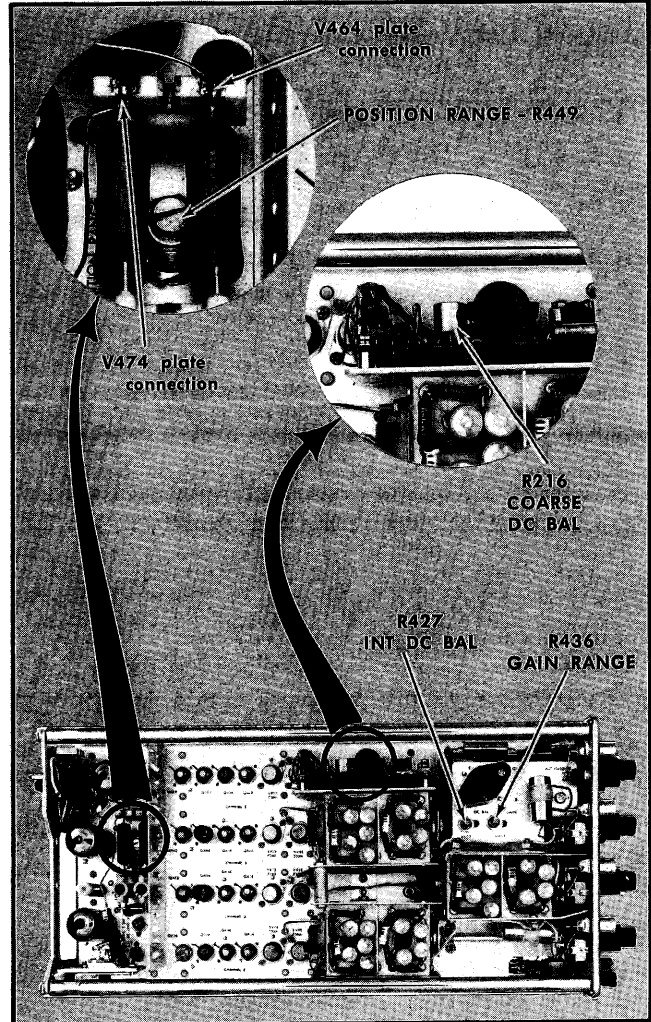

Fig. 5-6. Test point and adjustment locations for steps 2 and 4; 3A74 - left side.
(1) If the trace is not present on the face of the CRT, set R427, INT DC BAL (Fig. 5-6) and R215, DC BAL (front panel) to midrange.
(2) If the trace still is not present, hold the Channel 1 ZERO button depressed and adjust R216, COARSE DC BAL (Fig. 5-6) as necessary to bring the trace within the graticule viewing area.
(3) ADJUST—COARSE DC BAL (R216, Fig. 5-6) until less than 0.5 division of trace shift accompanies switching the PSI/DIV control between the 5 and 10 PSI/DIV positions.
(4) ADJUST—DC BAL (R215, front panel) until minimum trace shift (less than 0.1 division) accompanies switching between the 5 and 10 PSI/DIV positions.
g. CHECK—INT DC BAL. Rotate GAIN RANGE - R436 (Fig. 5-6), and check that the accompanying trace shift does not exceed 0.1 division.
h. ADJUST—INT DC BAL - R427 (Fig. 5-6) until minimum trace shift (not exceeding 0.1 division) accompanies rotation of the GAIN RANGE potentiometer.
- c. Turn off the Oscilloscope and connect a short jumper wire between the plates of V464 and V474. See Fig. 5-6 for plate contact locations. Then turn the Oscilloscope on.
h. ADJUST—POSITION RANGE - R449 (Fig. 5-6) as necessary to cause the group of traces to be centered around CRT vertical electrical center, with all traces within ± 1 division of it.